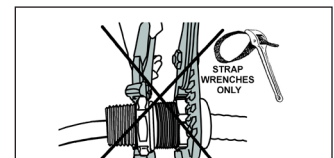

Figure 5
5. Tighten the gland nut until you obtain an appropriate seal or to the maximum torque (see table). The bushing should seal evenly around the cable's outer jacket. Ensure the cable remains centered to obtain an optimal seal (Figure 5).